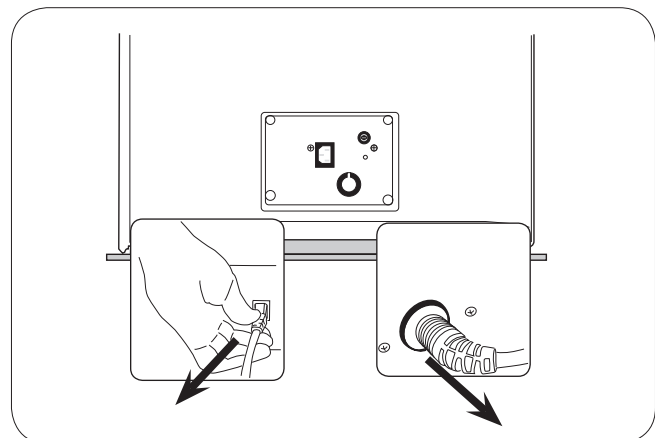

Figure 9. Unplug Foot Control and Power Cords
12. Unplug foot control and power cord and place into front storage drawer (Figure 9.).